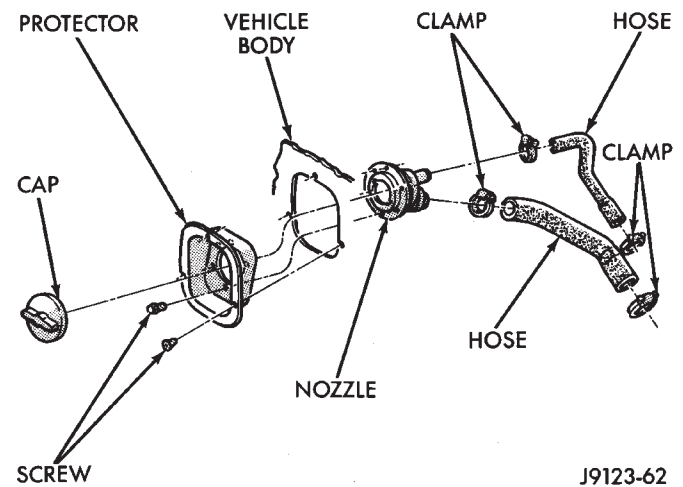

Fig. 76 Fuel Filler Cap, Protector, Nozzle and Hoses
(1) Either remove it or support the license plate bracket away from the fuel filler protector and nozzle (Fig. 76).
(2) Remove the cap from the nozzle (Fig. 76).
(3) Loosen the clamps at the nozzle and separate the hoses from the nozzle (Fig. 76).
(4) Remove the screws that attach the protector to the body panel (Fig. 76).
(5) Remove the protector and nozzle from the opening in the body (Fig. 76).
(6) Remove the screws and separate the nozzle from the protector (Fig. 76).
(1) Position the fuel filler nozzle on the protector and install screws (Fig. 76). Tighten the screws to 2 N·m (20 in-lbs) torque.
(2) Position the protector and the nozzle in body panel opening, and install (Fig. 76). Tighten the screws to 3 N·m (25 in-lbs) torque.
(3) Attach the hoses to the tubes and tighten the clamp screws to 3 N·m (30 in-lbs) torque (Fig. 76).
(4) Install the cap on the nozzle (Fig. 76).
(5) If removed, install the license plate bracket.